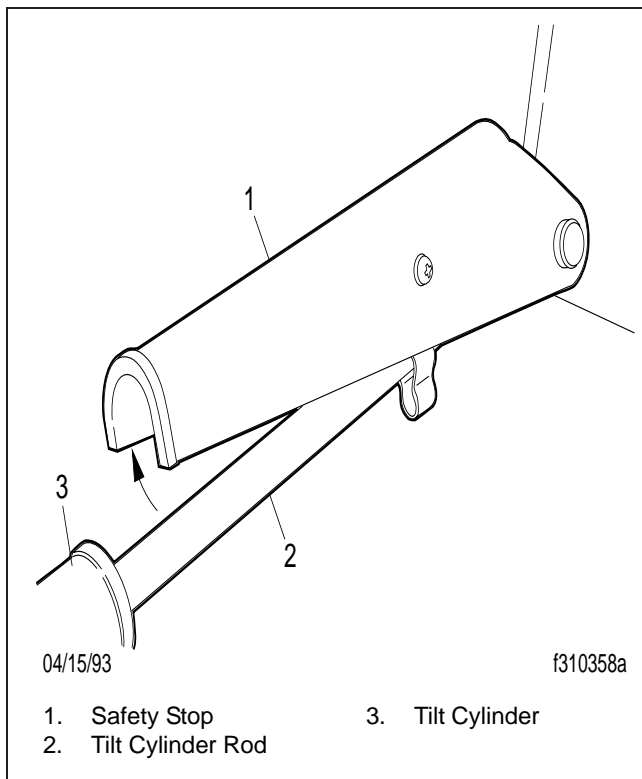

Fig. 3, Safety Stop Released
3. Lift the safety stop up until it no longer rests on the tilt cylinder rod. See Fig. 3. The cab may need to be raised if the safety stop is resting against the tilt cylinder rod.